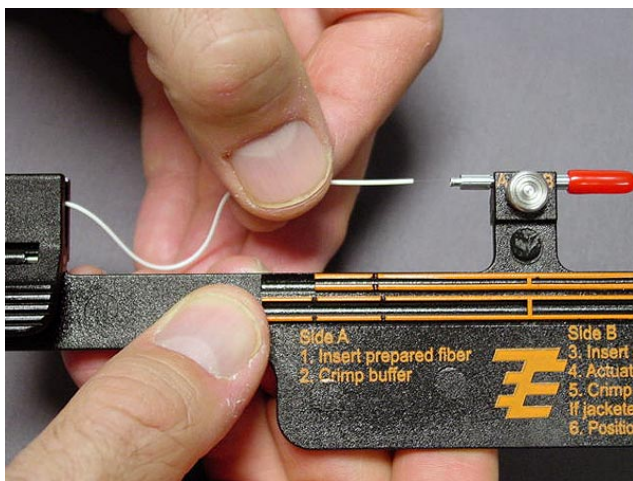

Figure 13
2. Holding on the buffered fiber, align the fiber with the splice and carefully insert the fiber into the splice until it stops. See Figures 13 and 14.